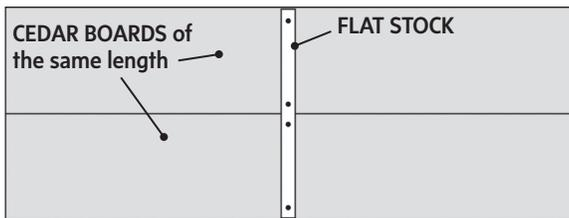

Figure 1
1. Working on a flat surface, align the short ends of two CEDAR BOARDS of the same length (rough faces up) as shown in **Figure 1**. Place one FLAT STOCK at center, make sure boards are flush and tight, and secure with PHILLIPS SCREWS. Repeat until you have 7 panels.
1. Working on a flat surface, align the short ends of two CEDAR BOARDS of the same length (rough faces up) as shown in **Figure 1**.